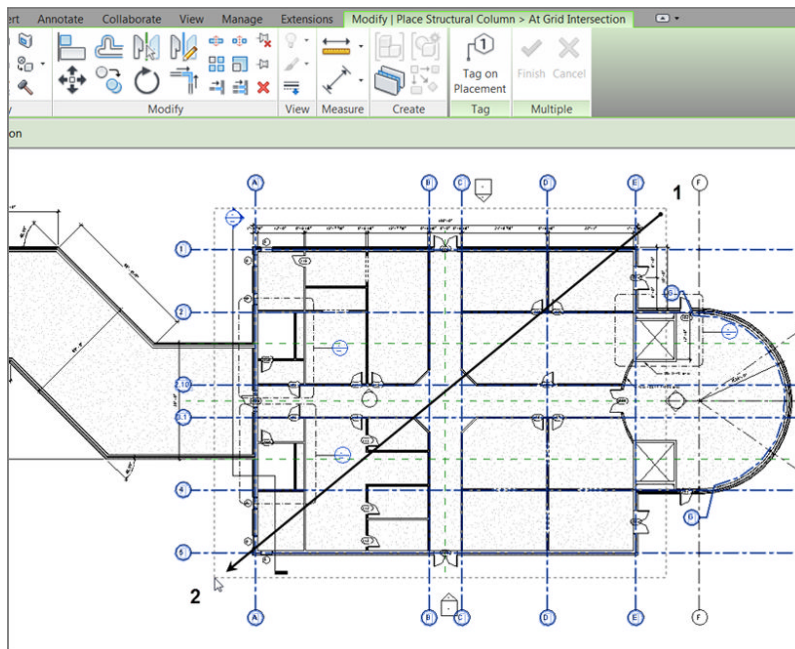

FIGURE 8.30: Picking a window where the columns will be placed
3. Pick a window around the rectangular portion of the east wing (from right to left), as shown in Figure 8.30.
4. The Modify | Place Structural Column > At Grid Intersection tab changes to allow you to either finish or cancel. After you have the window placed, click the Finish button on the Multiple panel, as shown at the top of Figure 8.30.